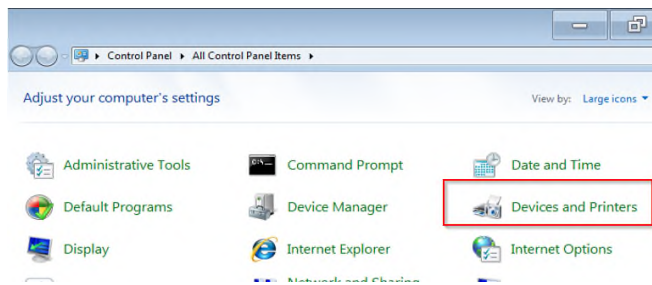

Figure 10.16 – Control Panel – Devices and Printers
- 3) Select **Add A Printer** at the top of the window as shown in the image below. (see figure 10.16)